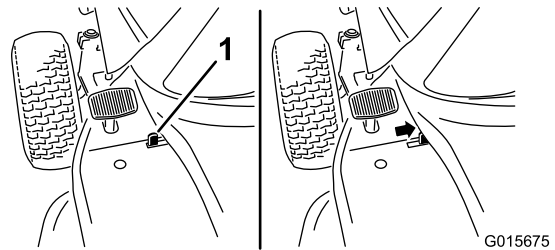

Figure 5
3. Slide the parking brake switch over (Figure 5) and gradually take your foot off the brake pedal.